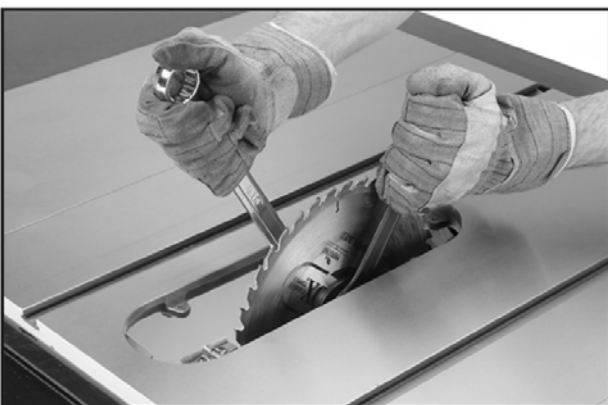

Fig.14: Install the blade
D. put on a pair of heavy leather gloves and use the included arbor wrenches to tighten the arbor nut (turn clockwise to tighten), as shown in **Fig.14**